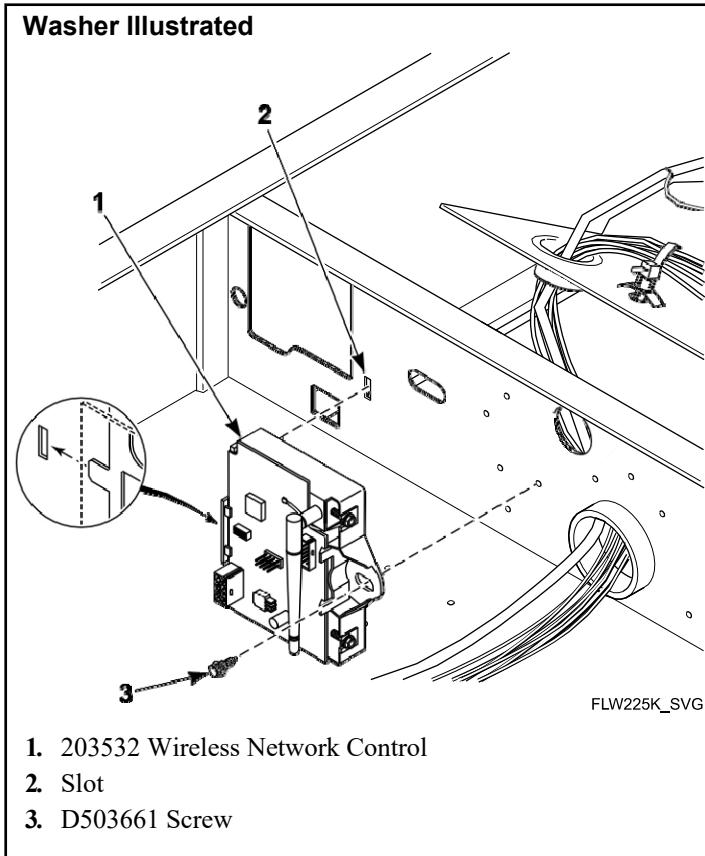

Figure 5
6. Place the tab on 203532 Wireless Network Control into slot in front bulkhead and secure opposite end with one D503661 Screw. Refer to *Figure 5* .